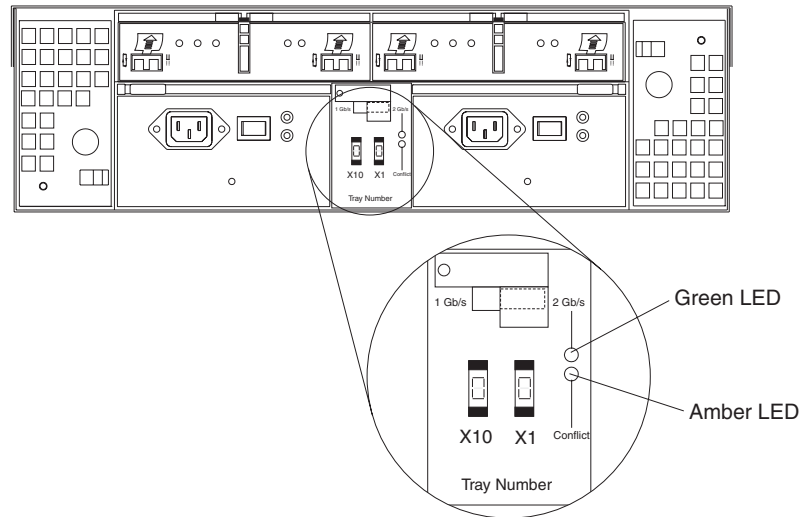

Figure 15. Setting the interface options
The FASiT EXP700 comes with two enclosure ID switches that are used to identify the FASiT EXP700 on a Fibre Channel loop, and to assign physical addresses to the drives. The enclosure ID switches are located on the back of the expansion unit, as shown in Figure 15.
4. Insert the SFP module into the SFP port until it clicks into place. See Figure 15 on page 19 for the correct orientation of the SFP in the FAST EXP700.